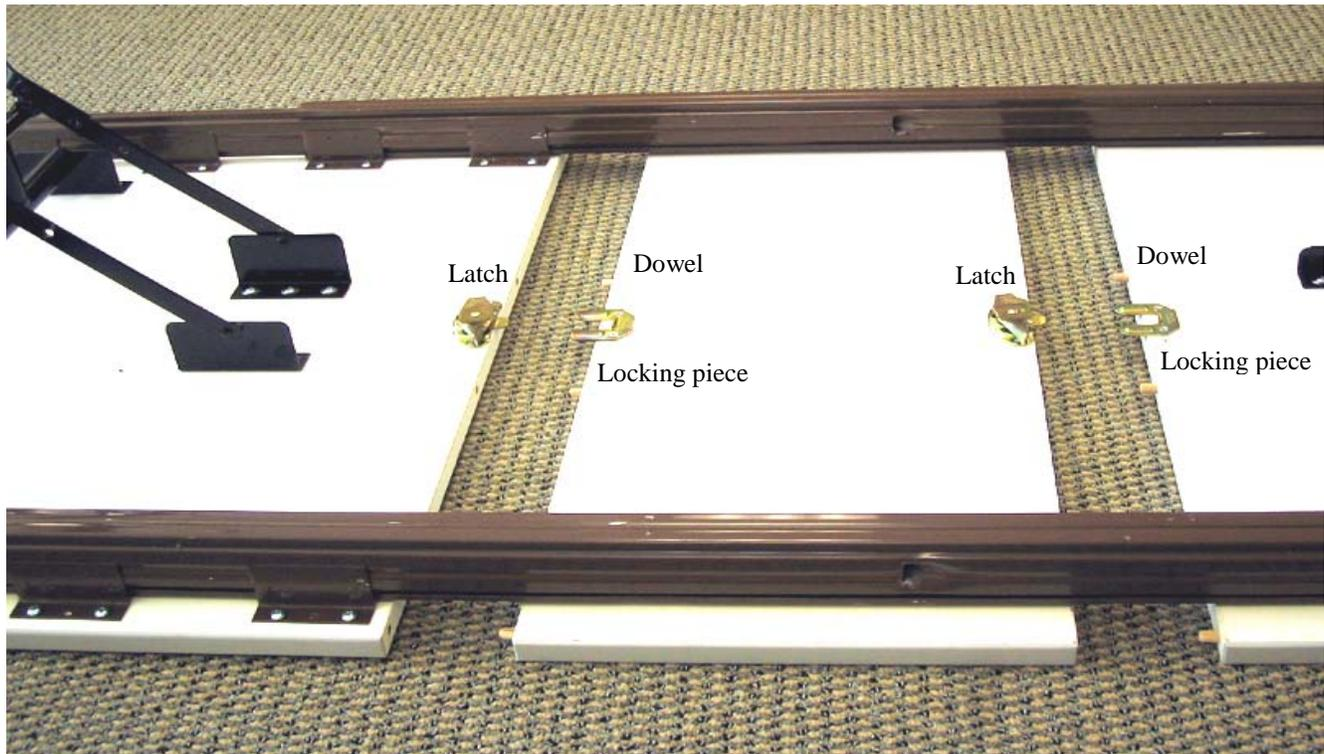

Figure 7
**Note: Make sure the latches and locking piece and dowels are on the same side on each leaf so the leaves will match with each other no matter which one is used or taken out (Figure 7).**
c) Install a locking piece & corresponding latch on opposite sides of each table leaf (Figure 7).